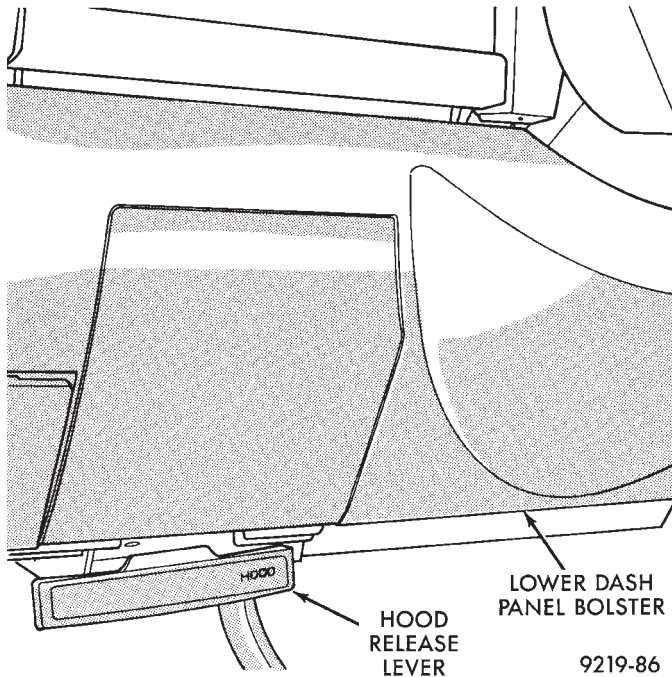

Fig. 5 Remove Hood Release lever And Dash Panel Bolster
(1) Disconnect and isolate, the battery negative (-) cable from the vehicle battery.
(2) Remove the lower dash panel bolster and inside hood release lever, (Fig. 5) from the vehicle instrument panel.
(16) Install the lower dash panel boltster. Install bolster attaching screws and torque to 3 N·m (24 in. lbs.). Install the inside hood release lever and torque screws to 3 N·m (24 in. lbs.) (Fig. 5).
(17) Reconnect the battery negative (-) cable to the vehicle battery.